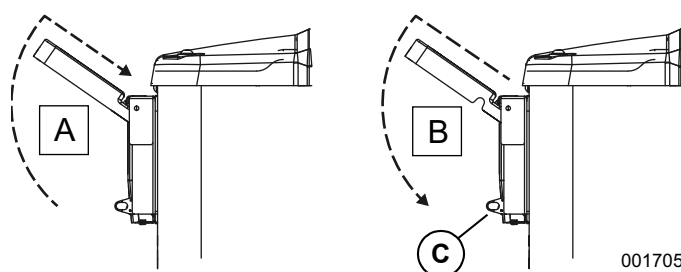

Figure 3-1. Open and Close Controller Lid
1. See view “A” in Figure 3-1. Lift lid from bottom to open. Lid will lock in place when raised.
2. See view “B” in Figure 3-1. Pull raised lid up and out slightly to unlock, then lower to close.
NOTE: Local codes may require this compartment to be locked. A hasp is provided so the owner/operator can secure the compartment with a padlock (C in Figure 3-1). Check local codes for side compartment locking requirements.